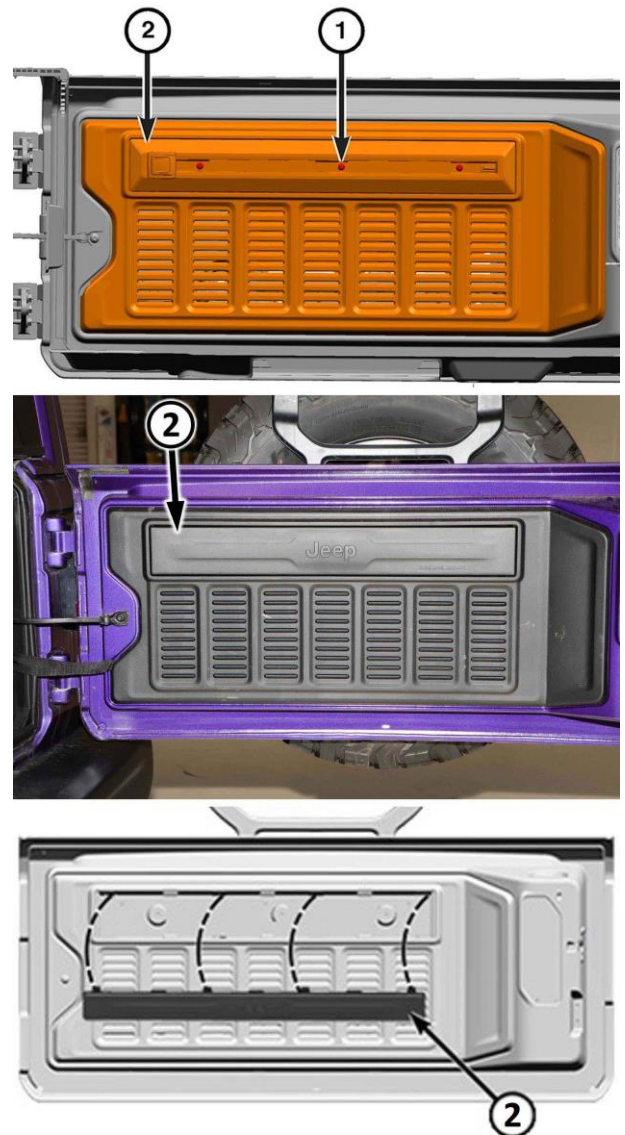

Figure 2 – Trim Rail
6. If equipped, remove the fasteners (1) securing trim rail (2) to the trim panel (Figure 2).
7. Using a Trim Stick C-4755 or equivalent, release the clips and remove the trim rail (2) from the trim panel (Figure 2).
28. Install the trim rail (2) to the trim panel and secure the trim rail clips (Figure 2).
29. If equipped, install the fasteners (1) securing the trim rail (2) to the trim panel (Figure 2).